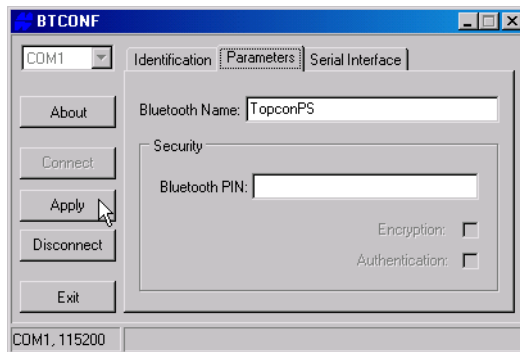

Figure 2-13. BTCONF Parameters Tab
5. Click the **Parameters** tab (Figure 2-13 on page 2-11). The Parameters tab sets identifying and security information for your Bluetooth module. The security section allows you to set data security and unauthorized access parameters for the Bluetooth module.
6. Enter up to 14 characters to set a unique name for the Bluetooth module (Figure 2-13), and click **Apply**.